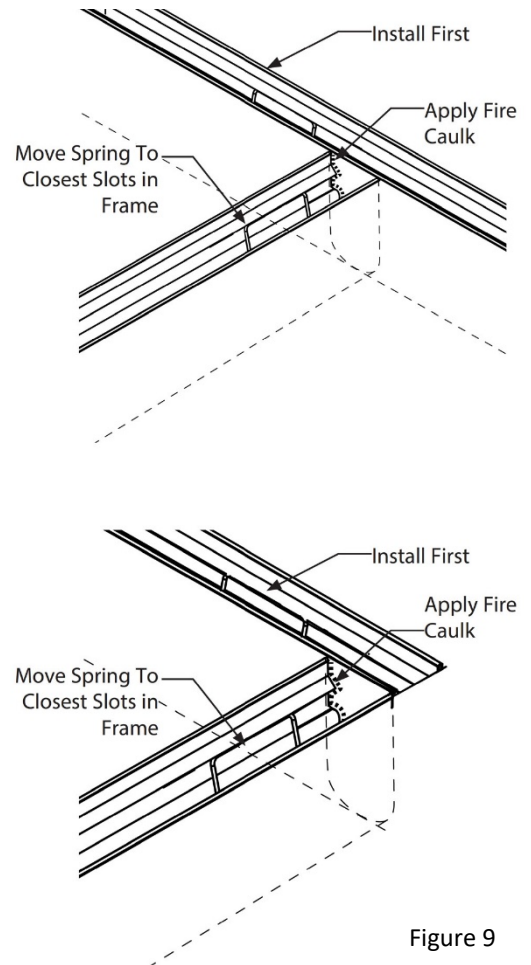

Figure 9
- 16. Install continuous run before installing intersecting run, *figure 9*.
- 17. Before installing the intersection. Cut the intersecting end of the assembly to achieve a clean butt end, *figure 9*.
- 18. Reposition the springs so that they are in the nearest spring slot to the cut end of the blanket, *figure 9*.
- 19. Insert the intersecting blanket into the expansion joint. Ensure the cut end of the fire barrier system butts flush with the side wall of the intersecting system, *figure 9*.
20. Apply fire caulk to seam at all visible openings, *figure 9*.